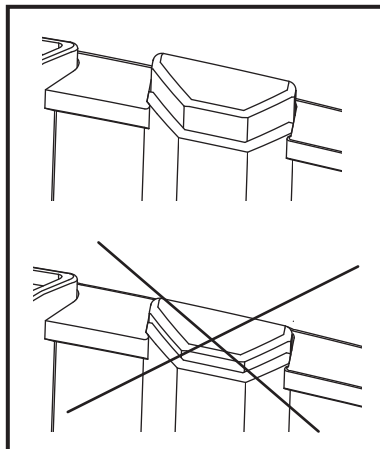

Fig. 4
1. Make sure the on/off switch (12) is in its off position (upper position) (Fig. 4).